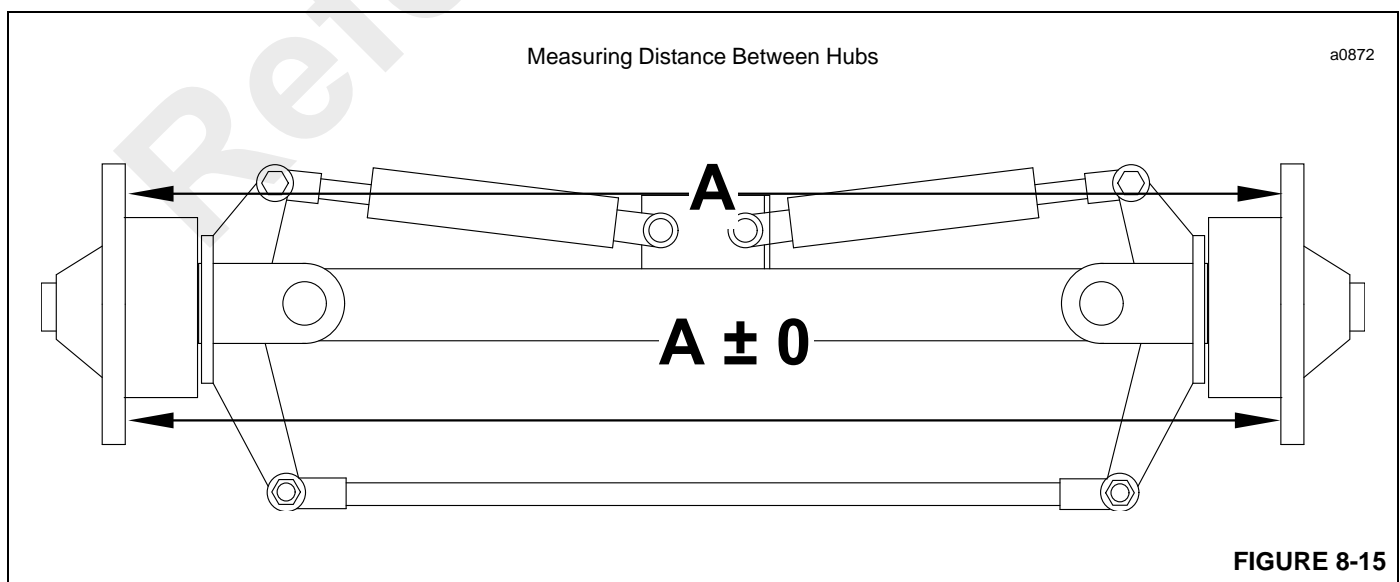

FIGURE 8-15
2. Measure the distance between the hubs on both sides of the axle (Figure 8-15).